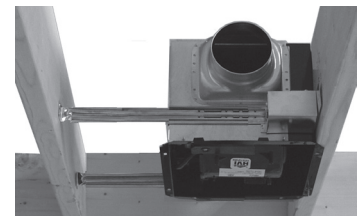

Fig. 5.1
- If joists are less than 8 inch height, add furring strips to achieve the installation height requirement (8 inches). (Fig. 5.1)